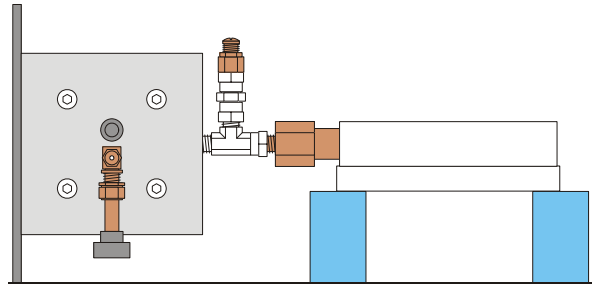

Fig. 6: Storage of the equipment for oil filling
- Place the equipment with the manometer facing downwards towards the ground). The manometer should rest on a support approx. 6-cm-thick (see Fig. 6).